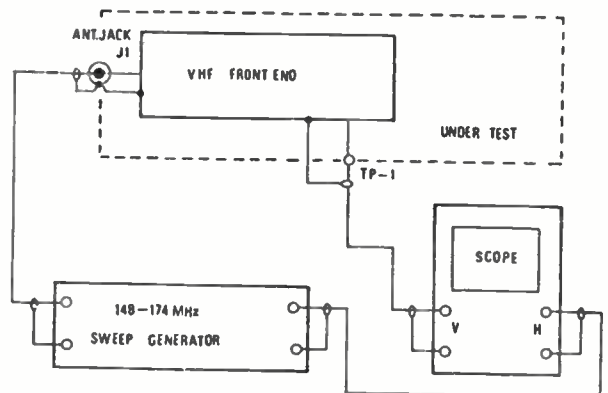

FIGURE 4. VHF RF ALIGNMENT
Step 1: Connect the instruments as shown in Figure 4.